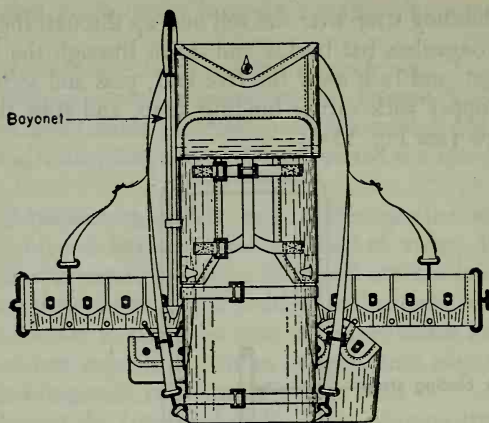

FIG. 55-7—Pack assembled.
(2) Engage the snap hooks on the pack suspenders in the lower suspension rings. Fold down outer flap (and end of poncho); pass the lower haversack binding strap under the bottom or middle one of the three haversack binding straps, then up through the tongueless bar buckle on the inner side of the outer flap.
(3) The equipment is now assembled and packed, ready to be adjusted to the man (see Fig. 55-7).